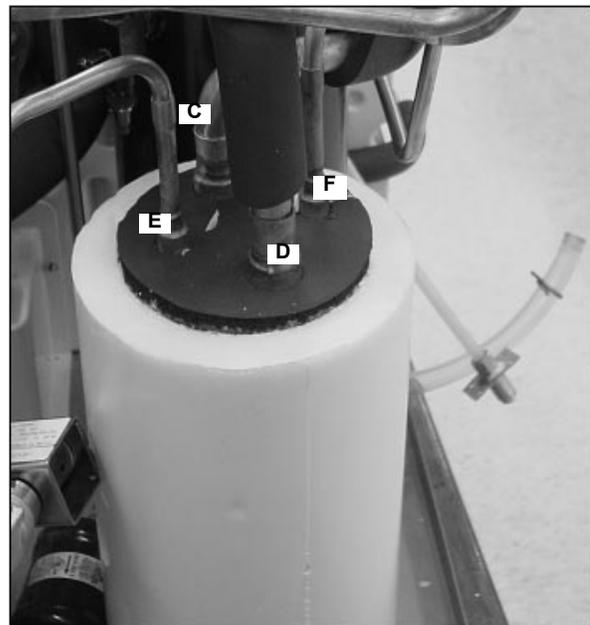

Figure 42.
41. Protecting the Armaflex insulation, as well as the foam insulation on the accumulator, braze the suction inlet (C) and outlet (D) (Figure 42).
42. Braze the liquid line inlet (E) and outlet (F) to the accumulator (Figure 42).